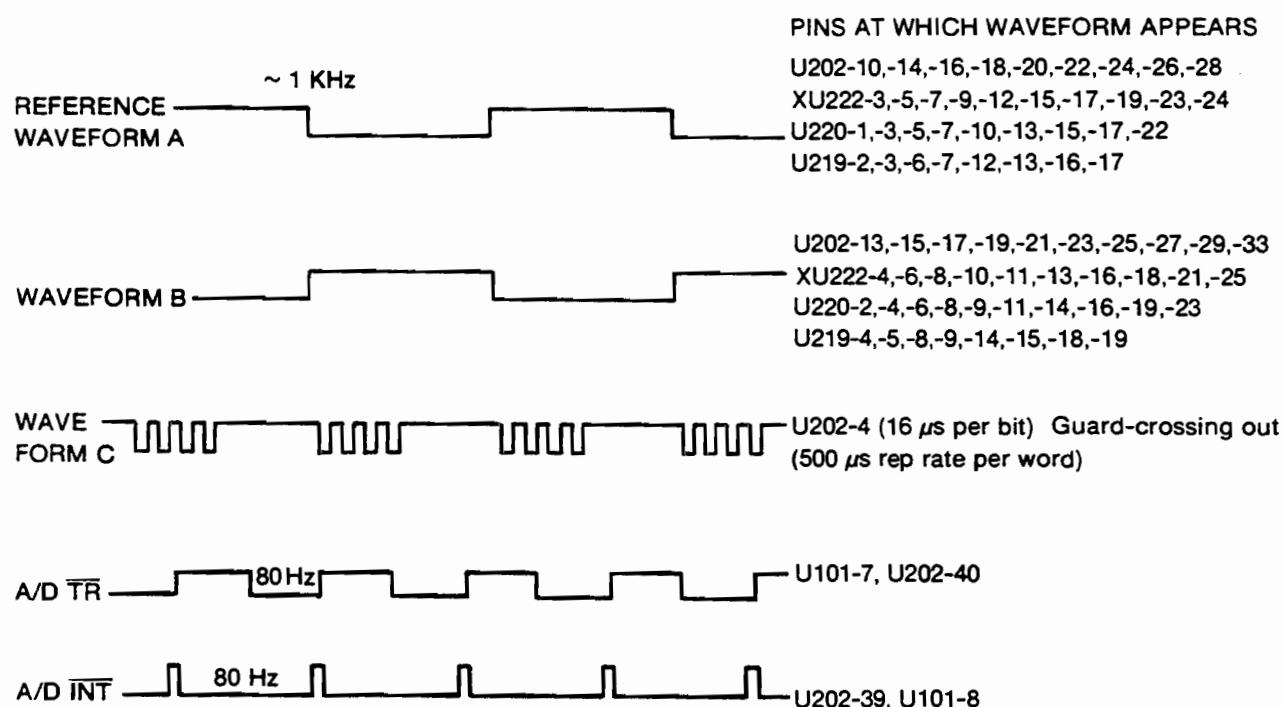

Figure 6-10. Waveforms for In-Guard Troubleshooting Mode
5. Guard-crossing test pattern (U202-4): Waveform (see Figure 6-10).
7. Output test patterns (see Waveforms A and B in Figure 6-10): 1 kHz square wave on indicated pins, 50% duty cycle, low 0V, high 3.8V nominal. (The waveforms are interrupted every 1.5 sec for 0.2 sec due to interrupts from the watchdog timer.) To observe these patterns, remove U220, attach a logic clip to address latch U219 and sync on U219-3 for Reference Waveform A on channel 1 of a dual trace scope. Compare channel 1 with waveforms at U202-10, -14, -16, -18, -20, -22, -24, -26, -28. These should all be the same as reference Waveform A (including phase). Then compare channel 1 with waveforms at U202-13, -15, -17, -19, -21, -23, -25, -27. These should be the same as Waveform B, which is simply the opposite phase of Waveform A.
Verify that U219-2, -6, -7, -12, -13, -16, -17 are the same as Waveform A (see Figure 6-10) on U219-3. Verify that U219-4, -5, -8, -9, -14, -15, -18, -19 are the same as Waveform B. The waveforms should be interrupted every 1.5 sec for 0.2 sec due to interrupts from the watchdog timer.
Sync on U219-3. Verify that XU222-3, -5, -9, -12, -15, -17, -19, -23, -24 are the same as Waveform A (see Figure 6-10) on U219-3. Verify that XU222-4, -6, -8, -10, -11,